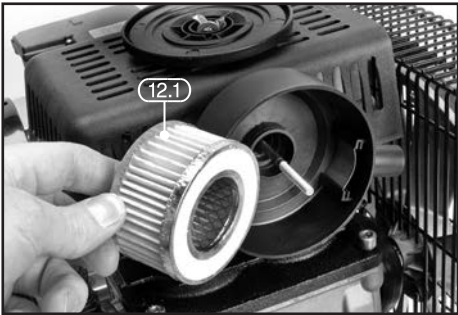

FIG.12
10.2 BASIC MAINTENANCE AND CHECKS – FIG. 12